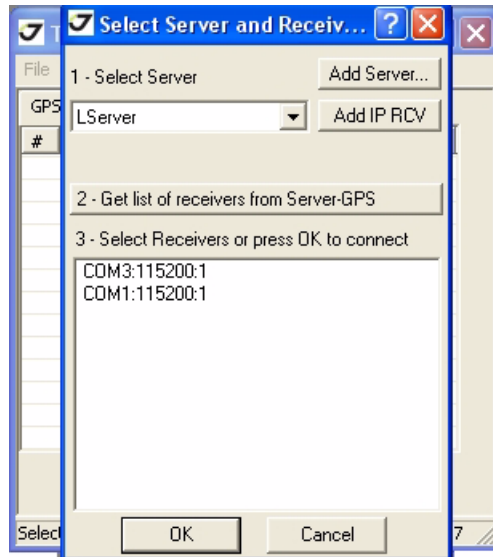

Figure 5-5. Connection Parameters
2. Start TriVU. Select the COM port and click Ok (Figure 5-5).